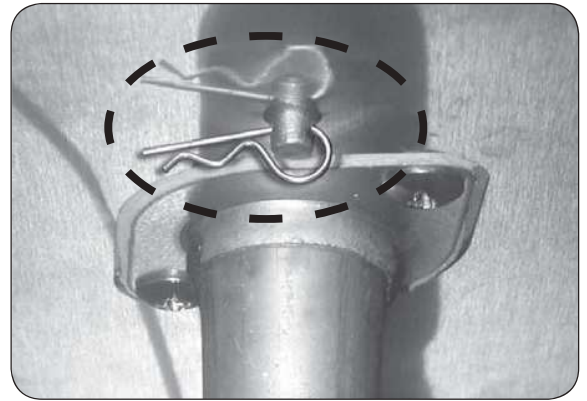

Fig. 24-1 Remove burner clip
3. Reach up under the burner support and remove the burner retaining clip (see Fig. 24-1), located at the rear of the burner pipe.